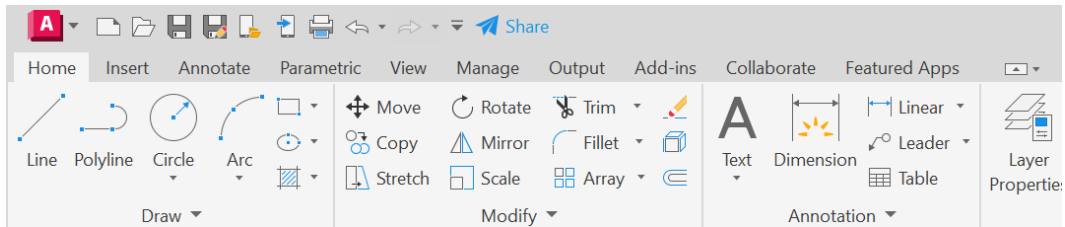

Figure 1.10: The Home tab selected when using Minimize to Tabs
To access the ribbon panels when using the **Minimize to Tabs** setting, you will need to select the ribbon tab first, then select the required command icon on its respective panel, as shown in *Figure 1.10*.
*Figure 1.10* has been truncated slightly to fit better on the page. Hence, only the **Draw** and **Modify** panels are displayed in full.